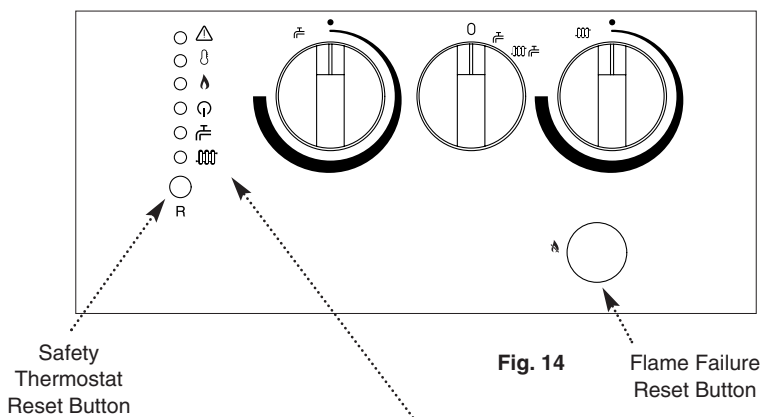

Fig. 14
3. **To reset:** Press the white reset button (below the indicator lights) to relight the boiler (Figs. 14 & 15).
### 3.7 Flame Failure Reset Button (Fig. 14)